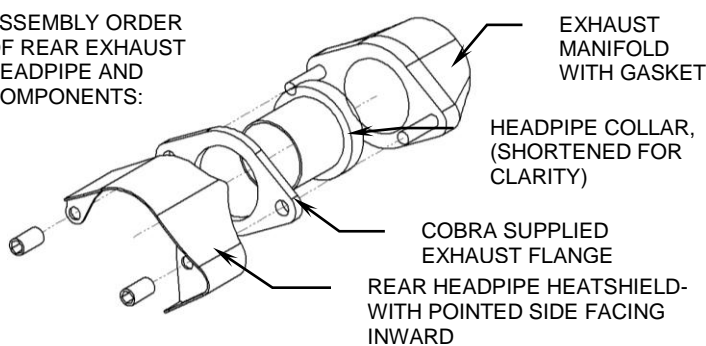

FIGURE 6
10. Install the front and rear headpipes onto the motorcycle using the supplied flanges, stock bolts and nuts. NOTE: On the rear headpipe be sure to install the stock flange cover as shown in Figure 6. Make sure the pipes are parallel to each other. **DO NOT TIGHTEN.**